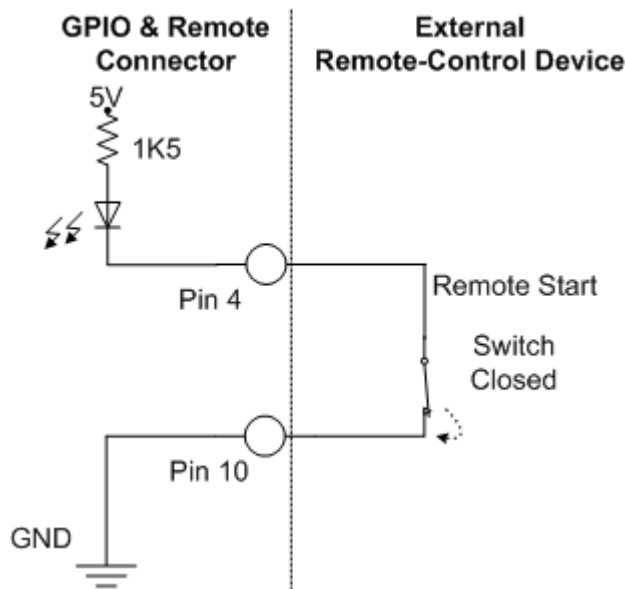

Figure B-1: Example of Remote Switch
For remote control functions, your external switch is concerned with the two control input pins (4 and 11) and the ground pin (10) in the **GPIO and Remote** connector. In order to start a remote capture, your external switch must force pin 4 to GND (that is, short circuit it). In order to stop a remote capture, your external switch must force pin 11 to GND. Figure B-1 illustrates the external switch between control input pin 4 and ground pin 10 closed to start a remote capture.